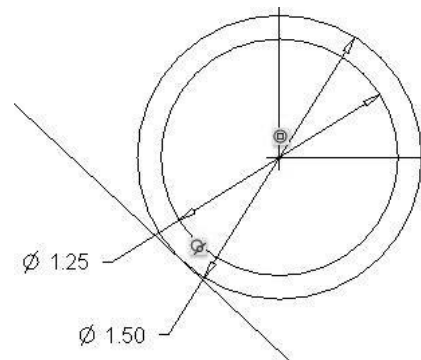

Figure 3-54 Slanted Surface Touches Outer Circle
Step 11: Use the **Line** tool to sketch in the slanted-surface jig. Start at the base of the tab, move upward a couple of inches, then horizontally toward the two circles. Do not draw horizontally through the center of the circles. Stop before reaching the circles. Draw a slanted line that touches the outer circle tangent (Figure 3-54), then draw a vertical line back down to the base.